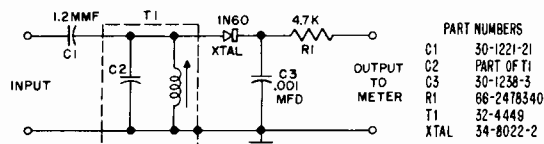

Figure 1. 4.5 mc. Detector Tube
- (1) Inject 4.5 MC AM signal into L11R or use station signal.
- (2) Connect 4.5 MC detector (see circuit, figure 1) to L4R (pin 7 of CRT).
- (3) Connect 20,000 ohms/volt meter, set to 2.5 volt range, to detector output.
- (4) Turn contrast control fully clockwise (to maximum).
- (5) Adjust 4.5 MC trap. (T2R, top) for minimum indication.